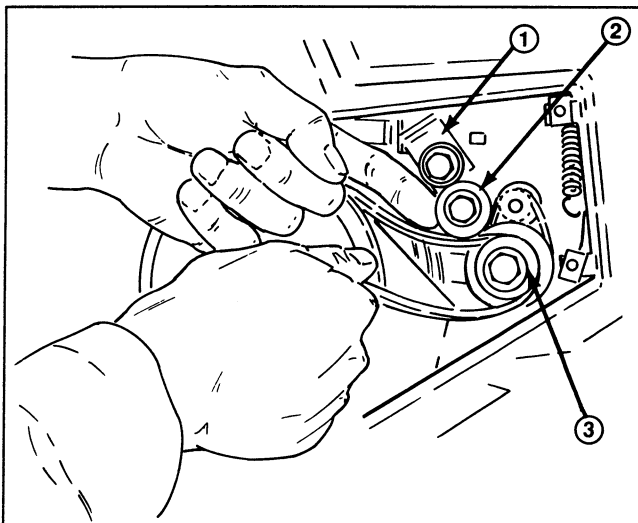

**Figure 16**
3. Rotate rotor with left hand while walking (sliding) belt off large pulley with right hand (Fig. 16).
2. Remove large belt by slowly walking (sliding) it off small pulley (Fig. 16). Refer to steps 2–3 in Large Belt Replacement section.